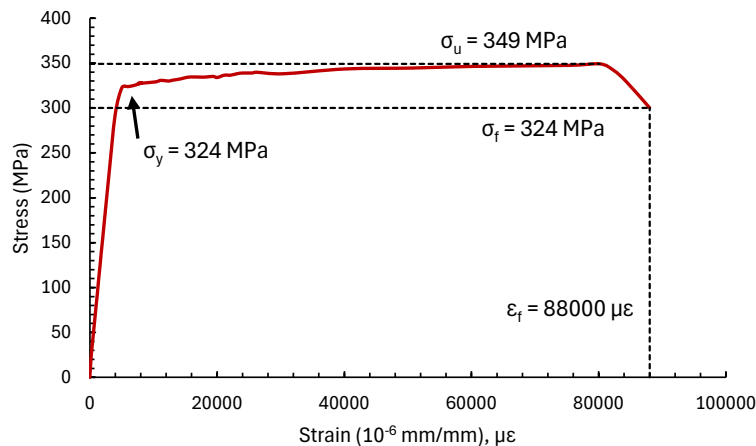

Figure 1: Axial Stress vs Axial Strain for Uniaxial Tension Test
3. Create a stress-strain graph for all your data points with axial stress (in MPa) on the vertical axis and axial strain (in 10^{-6} mm/mm) on the horizontal axis. Label the key points to include ultimate stress (σ_u), fracture stress (σ_f), fracture strain (ϵ_f), and yield stress (σ_y). See Figure 1.